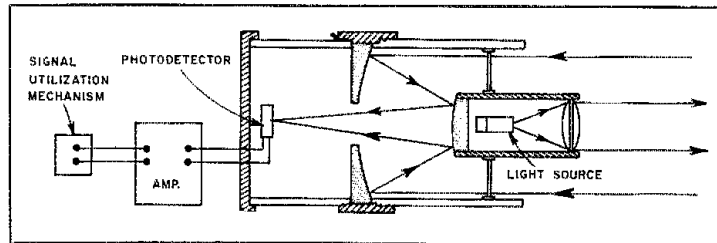

Fig. 1 — Mechanical details of the Thomas passive optical-communication mechanism.
□ In early 1963 while I was still at NASA Langley Research Center, one of the engineers in the Instrument Research Division, Numa E. Thomas, developed a passive optical communication system. He built a prototype, and I saw it in operation. It worked easily and well. Thomas subsequently got a patent on his system. It would be too long to describe in this letter, so I'm sending along a drawing of his system that illustrates the method (Fig. 1).
feed-can assembly. This unit is made from a male adapter, a 6-inch length of 3/4-inch PVC pipe and a disc cut from 2-inch foam insulation² that is pierced at the center to slide onto the PVC pipe (Fig. 1). The diameter of the disc should allow it to fit snugly into the anterior 2 inches of the feed can. The can and disc are adjusted for focus and then secured together with epoxy cement (PVC cement can't be used with the foam insulation).
Some dimension errors crept into Fig. 1 of "The New Frontier" in November 1981 *QST*. The millimeters-to-inches conversion should read "in. = mm \times 0.03937." Several dimensions that were converted to millimeters should have been expressed in inches: The waveguide hole shown at the top left of the drawing should be 1/8 in. The other hole should be 1/4 in. The Teflon or Mylar at the upper right should be 1/8 in. dia. Finally, the width in the top view should be 0.5 in. on either side of the hole.
Fig. 1 — (A) Details showing how the mike holder is bent to form the base of the pocket mag mount. (B) Top view, showing the mike-holder fingers bent to hold the BNC connector. (C) Final assembly of the pocket mag mount.